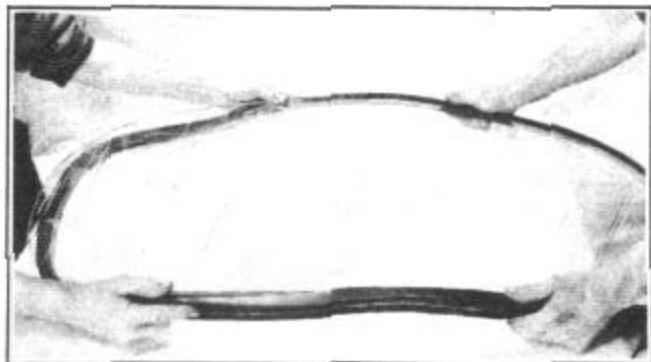

FIGURE 60
1. Insert the new glass, working lips of weatherstrip recess up over edge of glass until glass is completely encased, Figure 60.